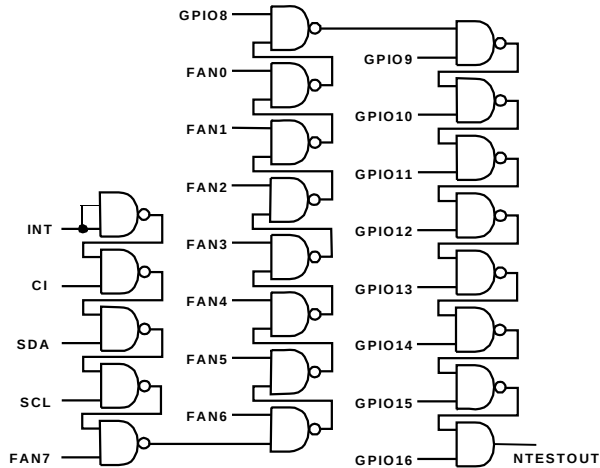

Figure 22. NAND Tree
mated Test Equipment (ATE) board level connectivity testing. This allows the functionality of all digital inputs to be tested in a simple manner and any pins that are non-functional or shorted together to be identified. The structure of the NAND tree is shown in Figure 22. The device is placed into NAND Tree Test Mode by powering up with pin 25 held high. This pin is sampled automatically after power-up and if it is connected high, then the NAND test mode is invoked.
2. If any of the inputs shown in Figure 22 are unused, they should not be connected direct to ground, but via a resistor such as 10k Ω . This will allow the ATE (Automatic Test Equipment) to drive every input high so that the NAND tree test can be properly carried out.